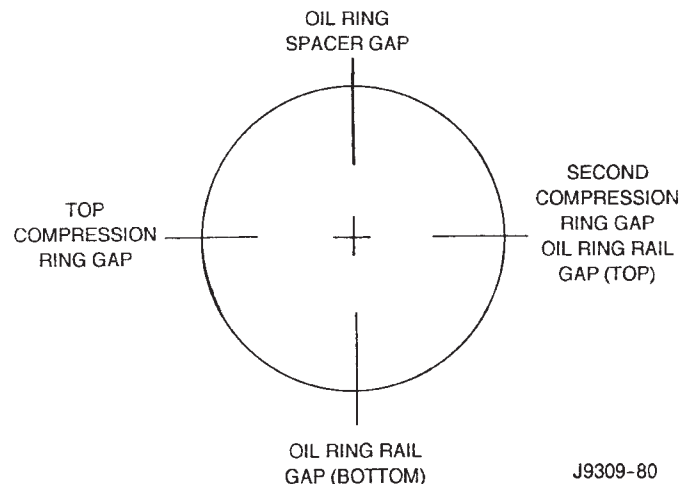

Fig. 36 Proper Ring Installation
- (1) Be sure that compression ring gaps are staggered so that neither is in-line with oil ring rail gap.
- (2) Before installing the ring compressor, make sure the oil ring expander ends are butted and the rail gaps located properly (Fig. 36).